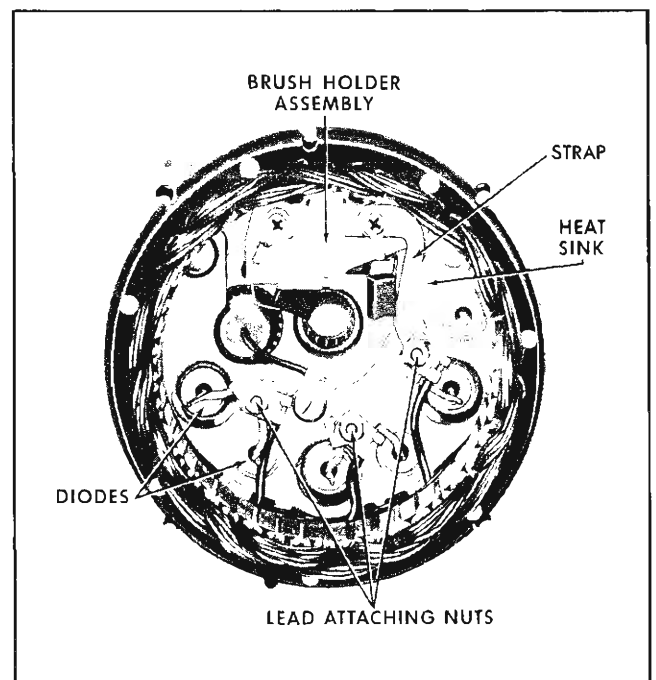
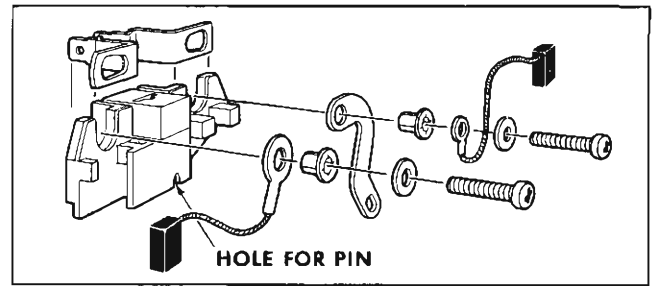

Fig. 11-15 Slip Ring End Frame
Fig. 11-17 Brush Holder Assembly
1. Remove 3 stator lead attaching nuts and washers (Fig. 11-15).
1. Remove two brush holder screws and stator lead to strap attaching nut and washer (Fig 11-15).
2. Remove brush holder assembly and brushes. Carefully note stack-up of parts (Fig. 11-17) for reassembly.
8. Attach the brush holder assembly into the end frame, noting carefully the stack-up of parts as shown in Fig. 11-17. Allow the wood or toothpick to protrude through the hole in the end frame and install stator lead to strap attaching nut and washer (Fig. 11-15).